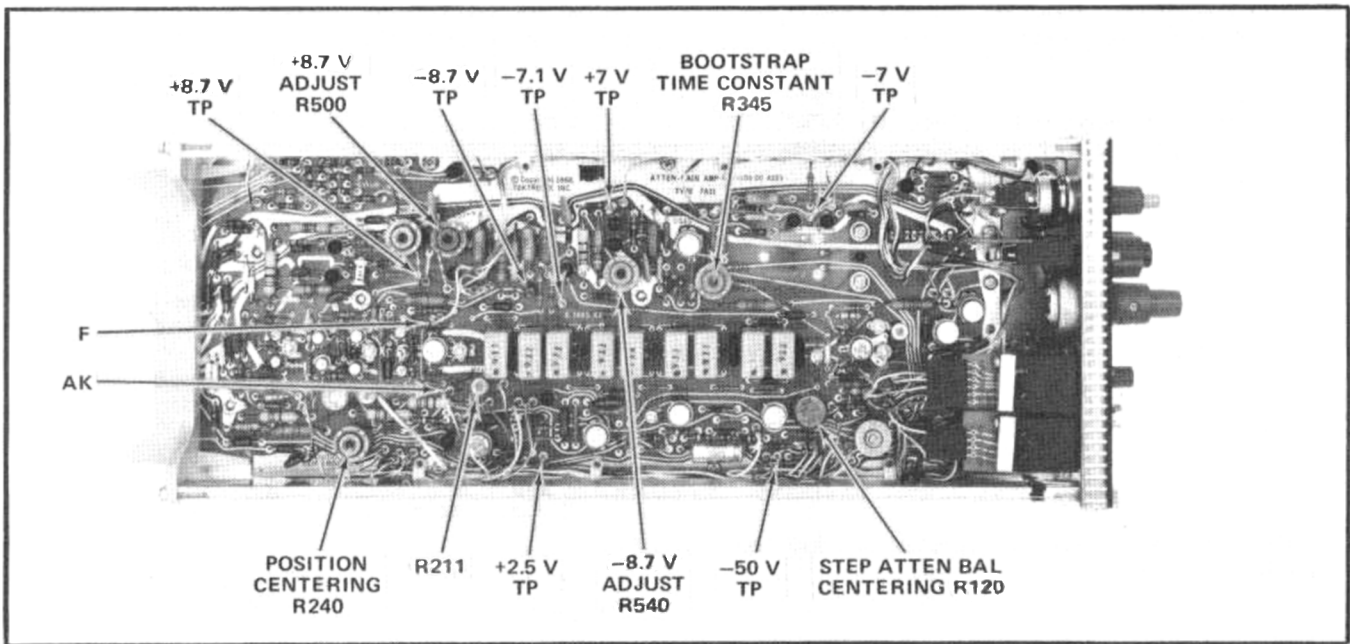

Fig. 5-4. Test point and adjustment locations for steps 1 through 4.
b. CHECK—Voltages. Using the DC Voltmeter (item 3), check the voltages listed in Table 5-3. Test points are shown in Fig. 5-4.
c. ADJUST—+8.7 V ADJUST, R500, and -8.7 V ADJUST, R540, (Fig. 5-4) as necessary to have the applicable power supplies within allowable values. Note that R540 also controls the -7.1 V supply. The +7 V, -7 V, and +2.5 V supplies are not adjustable.
(1) Set the STEP ATTEN BAL to midrange and pull out on the Oscilloscope Beam Finder knob.
(2) Set the 7A11 POSITION control to midrange. Note the trace position.
(3) Change the POLARITY selection and again note the trace position.
(4) ADJUST—STEP ATTEN BAL CENTERING, R120 (Fig. 5-4) as necessary to set the trace halfway between the two observed positions.
(5) Alternately select +UP and INVERT Polarity and adjust ATTEN BAL CENTERING R120 (Fig. 5-4) as necessary to obtain minimum trace shift.
(6) Using the 7A11 POSITION control, set the trace to graticule center.
(7) Return the Beam Finder switch to normal by pushing in and releasing it.
(8) Alternately select +UP and INVERT Polarity and adjust ATTEN BAL CENTERING R120 (Fig. 5-4) as necessary to obtain minimum trace shift.
(9) Select + UP Polarity at the 7A11.
(1) Disconnect the connectors from terminals "F" and "AK" (Fig. 5-4).
(2) ADJUST—POSITION CENTERING R240 (Fig. 5-4) to move trace to graticule center.
(3) Reconnect the wires to terminals F and AK.
(4) Using the front-panel POSITION control, set trace to graticule center.
(5) CHECK—knob index should be within approximately 10° of top-center.
(6) ADJUST—knob to top center (loosen set screw) with trace at graticule center.
(7) CHECK—knob should be approximately centered in its stop-to-stop travel range.
g. (Calibration Procedure only.) **ADJUST**—R211 and R345 (Fig. 5-4) for optimum square corner and flatness. Rounding, overshoot and tilt should not exceed .05 division peak to peak. Use Fig. 5-5 as a reference. (Observing the display at 5 ms/division may aid in performing the adjustment.)